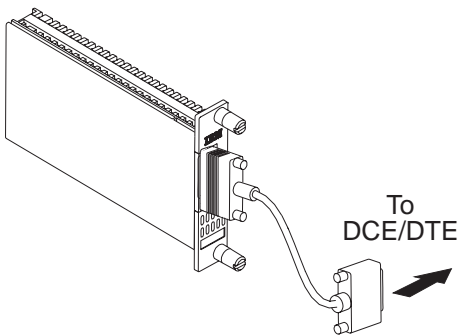
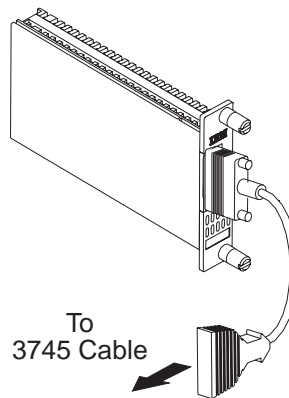

Figure 8-16. Cable Connector Type 3746-900
Figure 8-17. Cable Connector Type 3745
6. \_\_\_\_ Determine the cable connector type plugged on the ARCs (see Figure 8-16 and Figure 8-17).